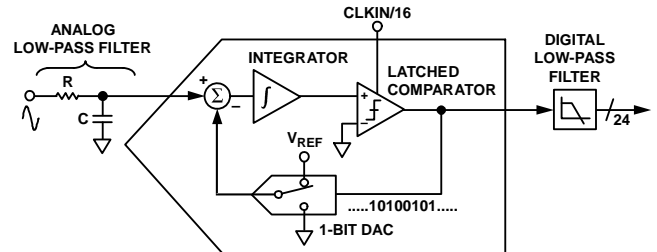
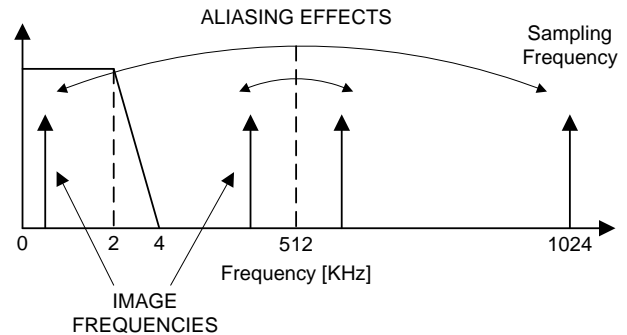

Figure 12. First-Order Σ - Δ ADC
Figure 14. Aliasing effects at ADE7858
For simplicity, the block diagram in Figure 12 shows a first-order Σ - Δ ADC. The converter is made up of the Σ - Δ modulator and the digital low-pass filter.
Figure 12 also shows an analog low-pass filter (RC) on the input to the ADC. This filter is placed outside the ADE7858 and its role is to prevent aliasing. Aliasing is an artifact of all sampled systems and is illustrated in Figure 14. Aliasing means that frequency components in the input signal to the ADC, which are higher than half the sampling rate of the ADC, appear in the sampled signal at a frequency below half the sampling rate. Frequency components (arrows shown in black) above half the sampling frequency (also known as the Nyquist frequency, i.e., 512 kHz) are imaged or folded back down below 512 kHz. This happens with all ADCs regardless of the architecture. In the example shown, only frequencies near the sampling frequency, i.e., 1.024MHz, move into the band of interest for metering, i.e., 40 Hz to 2 kHz. To attenuate the high frequency (near 1.024MHz) noise and prevent the distortion of the band of interest, a LPF (low-pass filter) has to be introduced. For conventional current sensors, it is recommended to use one RC filter with a corner frequency of 5 KHz in order for the